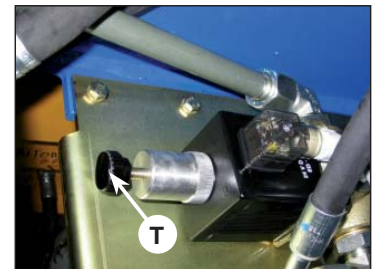

fig. 4a
- T** Electric deviator of the crane-outriggers (fig. 4a)
- tighten the **T** screw (fig. 4a)
- to reactivate the crane functions loosen the **T** screw, to the previous position (see fig. 4a)